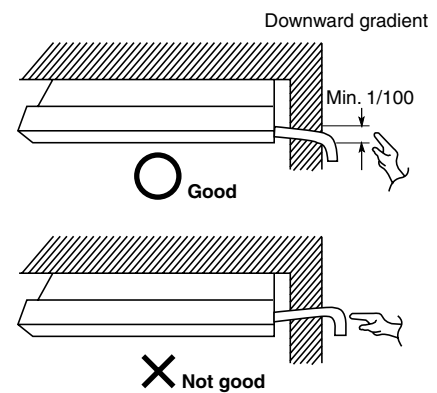

Fig. 3-129
- (1) Drain hose connection
- (2) Installing the drain hose
- Connect the drain piping so that it slopes downward from the unit to the outside. (Fig. 3-129)